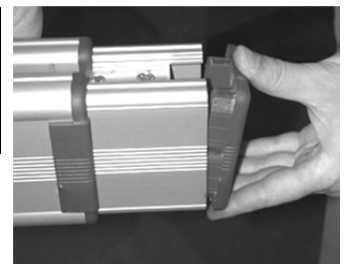

Figure 39
- d) Snap the flat blue cap onto the end of the rail (see Figure 39).